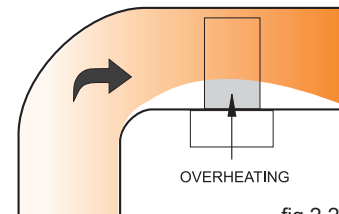

fig.2.24
- ⚠ If the electric heater is located too close to an elbow, 1 overheating area may occur (fig. 2.24).